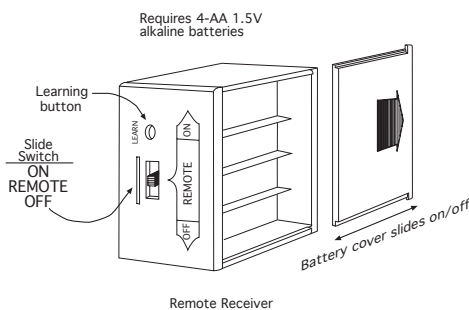

Fig. 12 Installing Batteries
First, install (4) AA-size 1.5 ALKALINE batteries in the remote receiver (Fig 12). For best performance, remote receiver batteries should be factory fresh when installed. The system operates best when battery output is greater than 5.3 volts. Four (4) new AA batteries should provide an output voltage of 6.0 to 6.2 volts. Be sure batteries are installed